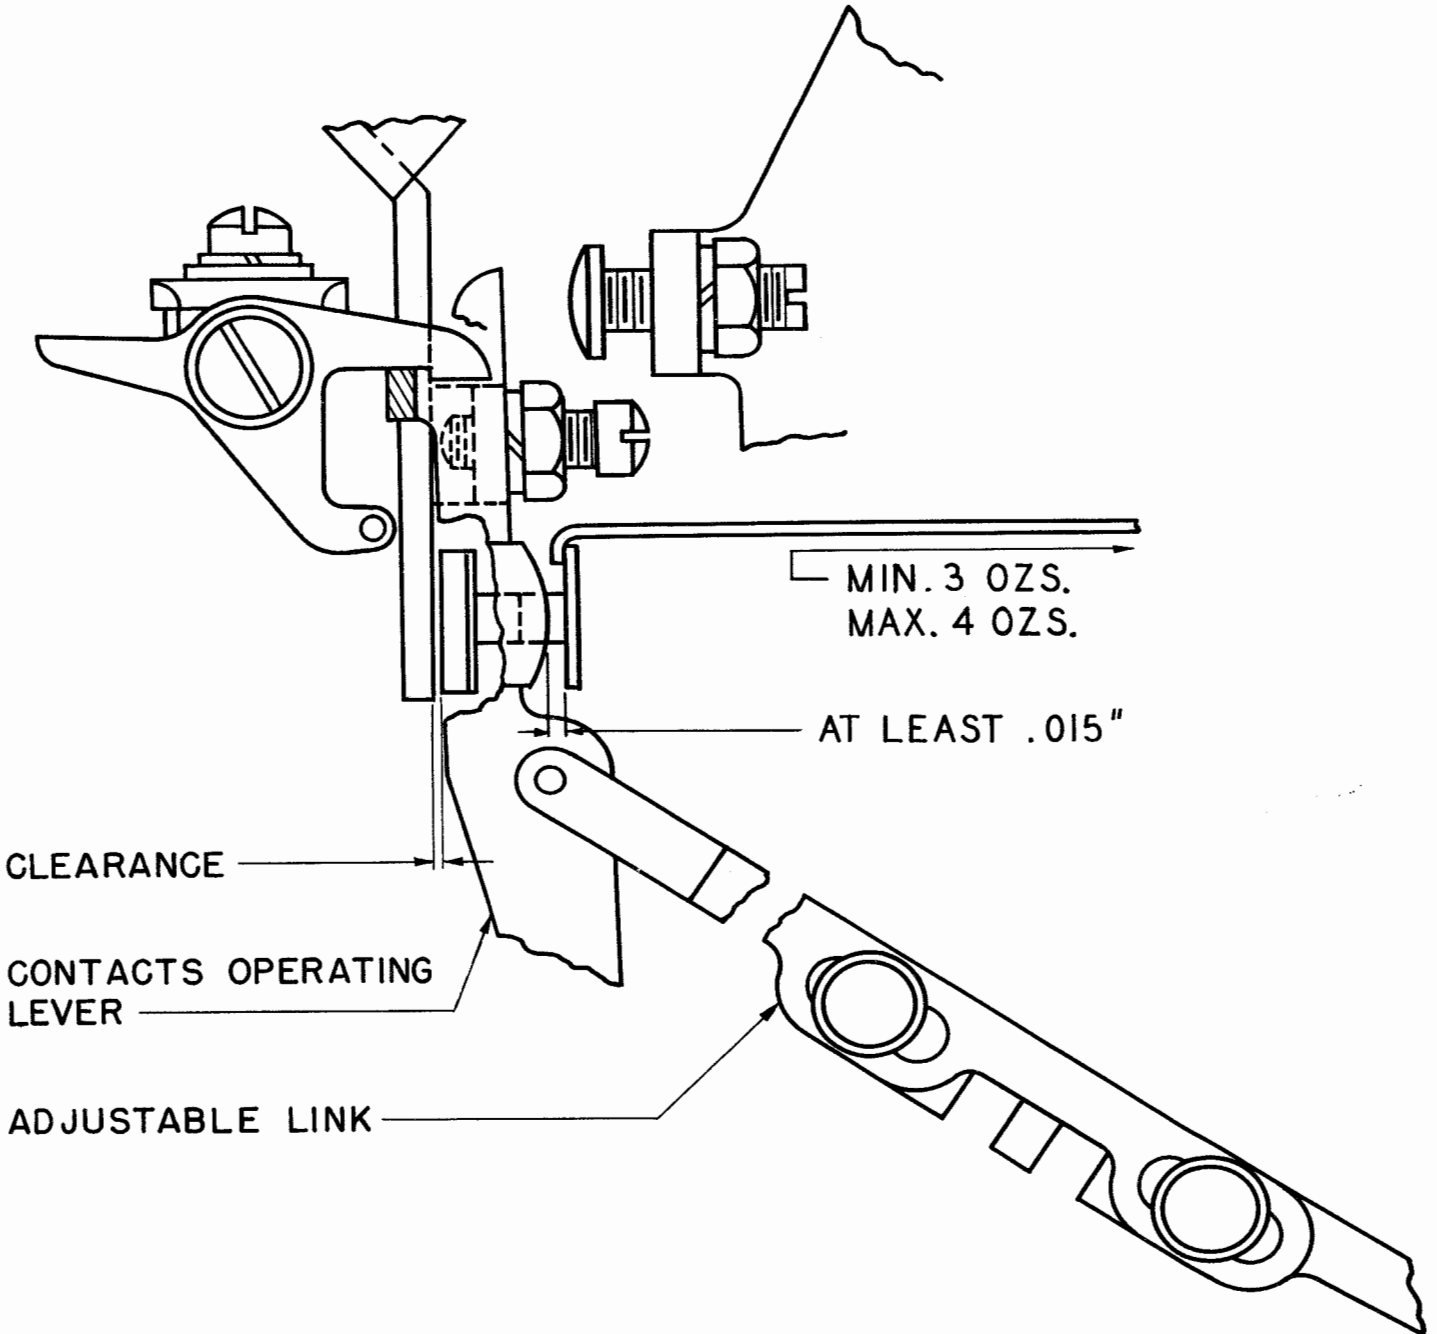

Figure 42
3. 33 Punch-magnet Control Right Contact Spring Tension: With a keylever depressed, the punch-magnet control right-contact spring tension should be minimum 3 ounces, maximum 4 ounces to just separate the contact points when there is some clearance between the antichatter lever and the insulator on the (short) left contact spring, and clearance between the insulator on the punch-contact operating lever and the right contact spring. See Figure 42.
To Check: See that there is clearance between the insulator on the left (short) contact spring and the antichatter lever. Try all keylevers including the spacebar keylever. See Figure 42.